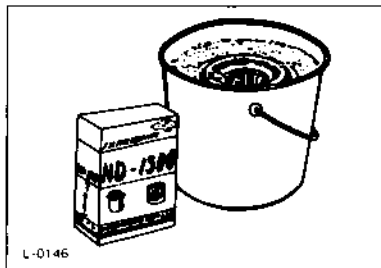

Fig.24
2. If carbon or oil is sticking, wash with liquid cleaner and water. (Fig.24)